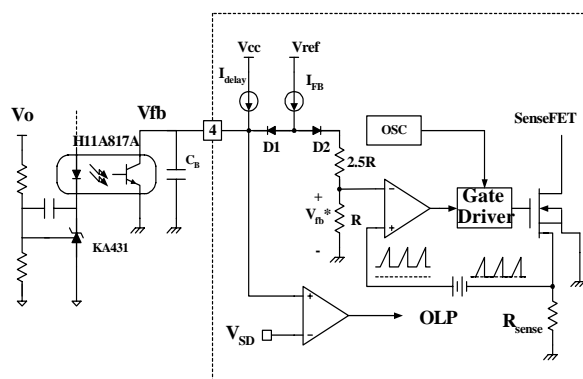

Figure 5. Pulse Width Modulation (PWM) Circuit
2. Feedback Control: FSDM0465RB employs current mode control, as shown in Figure 5. An opto-coupler (such as the H11A817A) and shunt regulator (such as the KA431) are typically used to implement the feedback network. Comparing the feedback voltage with the voltage across the Rsense resistor plus an offset voltage makes it possible to control the switching duty cycle. When the reference pin voltage of the KA431 exceeds the internal reference voltage of 2.5V, the H11A817A LED current increases, thus decreasing the feedback voltage and reducing the duty cycle. This event typically happens when the input voltage is increased or the output load is decreased.
2.1 Pulse-by-Pulse Current Limit: Because current mode control is employed, the peak current through the SenseFET is limited by the inverting input of the PWM comparator (V_{fb}^*) as shown in Figure 5. Assuming that the 0.9mA current source flows only through the internal resistor ($2.5R + R = 2.8 \text{ k}\Omega$), the cathode voltage of diode D2 is about 2.5V. Since D1 is blocked when the feedback voltage (V_{fb}) exceeds 2.5V, the maximum voltage of the cathode of D2 is clamped at this voltage, thus clamping V_{fb}^* . Therefore, the peak value of the current through the SenseFET is limited.